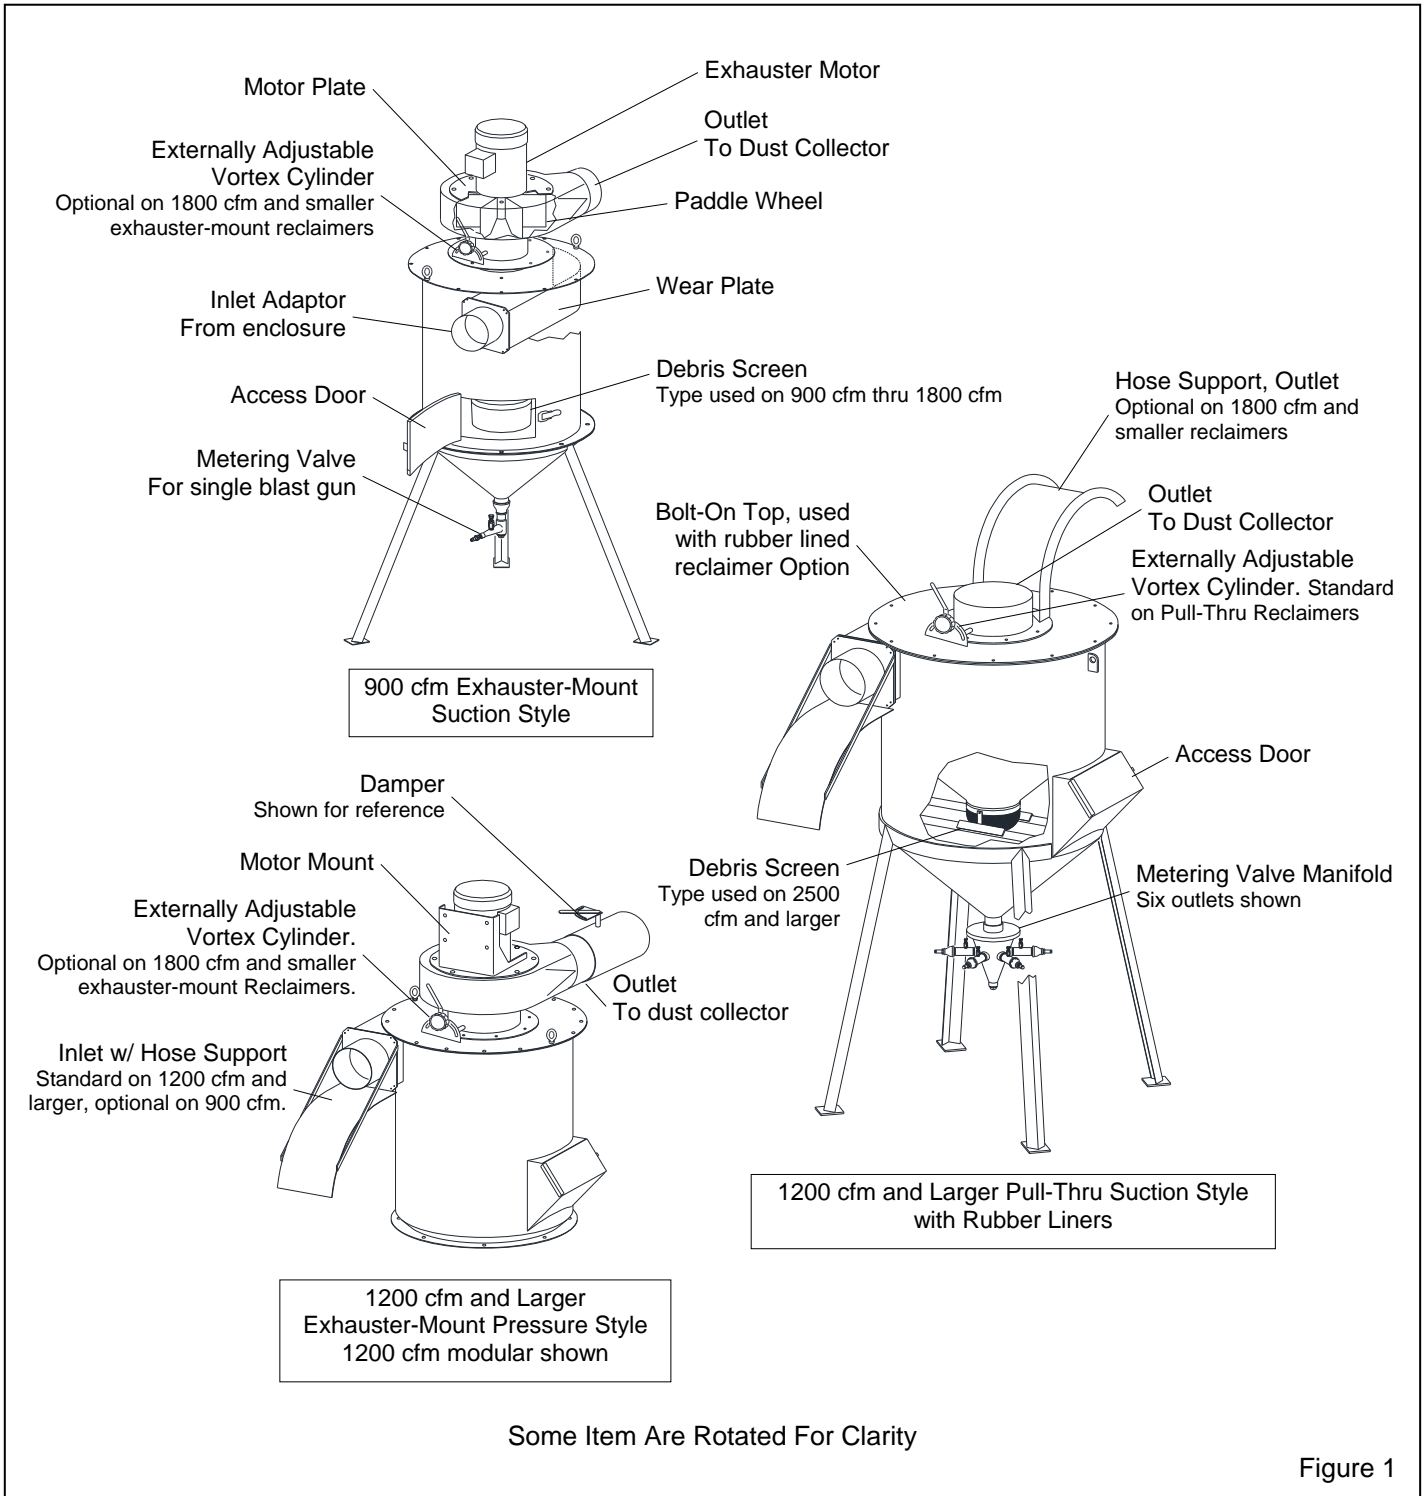

Figure 1
1.3.1 Reclaimers are divided into two primary categories: Push-thru and Pull-thru. Within those categories, the reclaimer is either a suction type or pressure type. Some of the smaller reclaimers are convertible. The operation of the reclaimer is the same for both types. Refer to Figure 1 for reclaimer type and components.
1.5.1 A replaceable wear plate protects the reclaimer inlet area from rapid wear. The wear plate is standard on all non-rubber-lined reclaimers. See Figure 1.
2.3.2 Connect the appropriately sized flexible conveying hose or ducting from the reclaimer outlet, to the dust collector inlet. Refer to Figure 1.